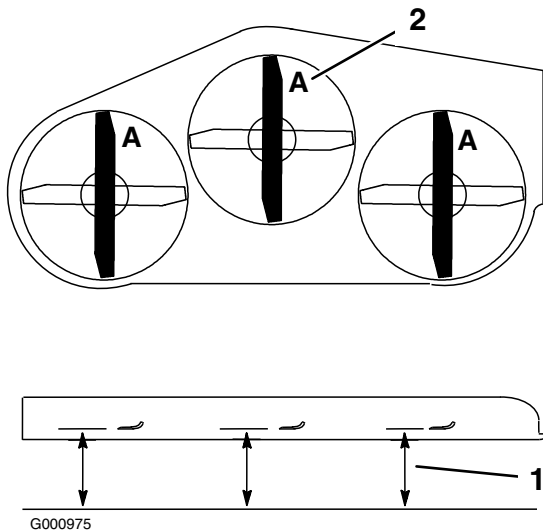

Figure 77
3. Rotate the blades until the ends face forward and backward (Figure 77). Measure from a level surface
to the cutting edge, position **A**, of the blades (Figure 77). Note this dimension.